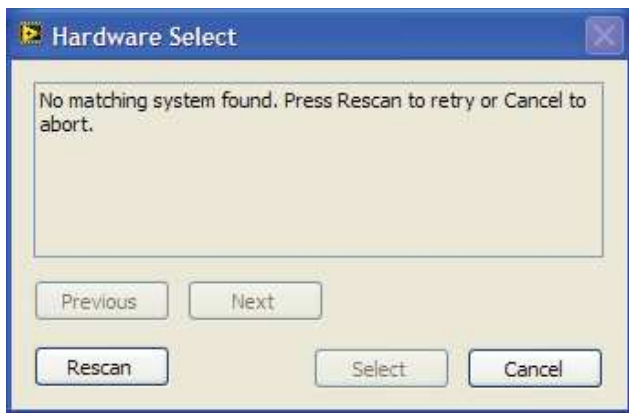

Figure 2. Pop-Up Window Error
2. If the SDP board is not connected to the USB port when the software is launched, a connectivity error is displayed (see Figure 2). Simply connect the evaluation board to the USB port of the PC, wait a few seconds, click **Rescan**, and follow the instructions.